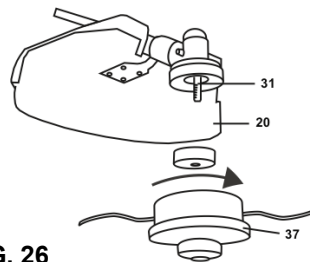

FIG. 26
1. If the line is used up, the spool must either be replaced by one of the same type, or the trimming line (39) must be refilled.
4. Insert the spindle lock rod (41) into the hole to lock the spindle.
5. Remove the trimmer head (37) by unscrewing clockwise (Fig. 26).